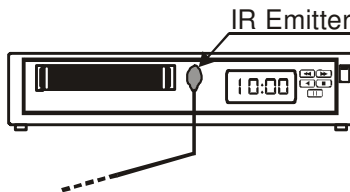

Figure 6: Connecting the IR Emitter
- The IR OUT 2, 3.5mm mini connector to the IR receiver¹ (on the video player) via the IR emitter cable (see Figure 6)